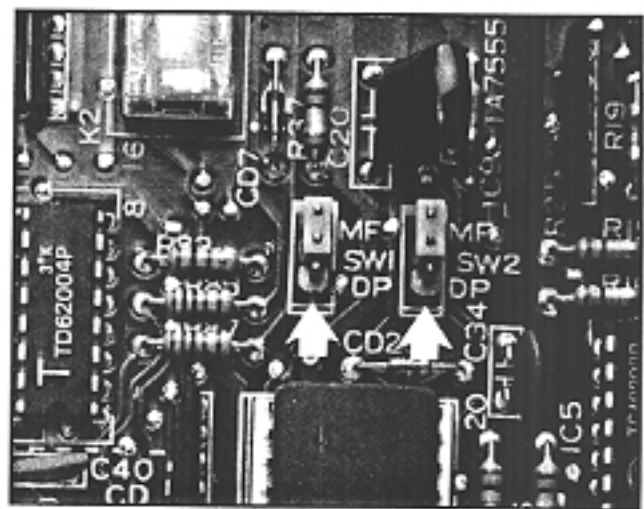

FIGURE 17
06.62 Choose the appropriate type of MOPU PCB (MF/DP or DP). If MF/DP, make sure the SW1 and SW2 strapping plugs (Figure 17) are in the correct strapping position to match the type of telephones being used. Position each plug so that the center pin is strapped to the pin marked either MF or DP. See Section 200-006-300, *System Programming*, for further information.